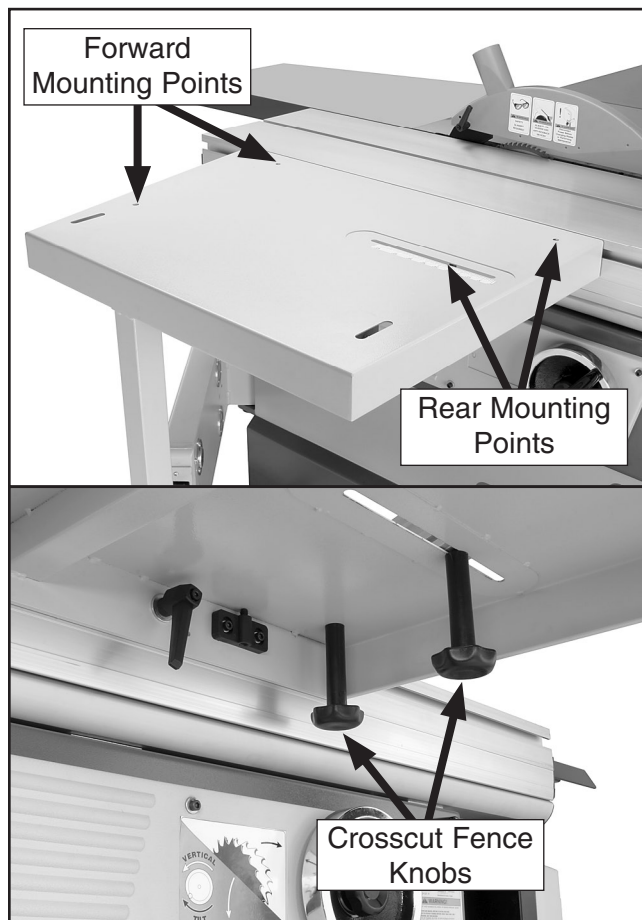

Figure 44. Crosscut fence mounting.
1. Insert the T-bolts in the areas indicated in **Figure 44**, depending on whether or not you want the crosscut fence in the forward or rear position. (Refer to **Page 36** for more details.)